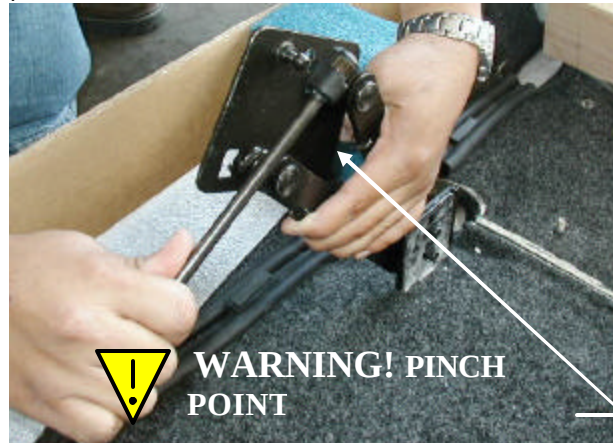

Figure 12.
- Prepare the rear half of the tonneau cover for installation. Rotate the hinge assembly and insert the gas spring socket onto the ball stud. **See Figure 12.** **WARNING!** The hinge assembly is spring-loaded and could become a pinch point.